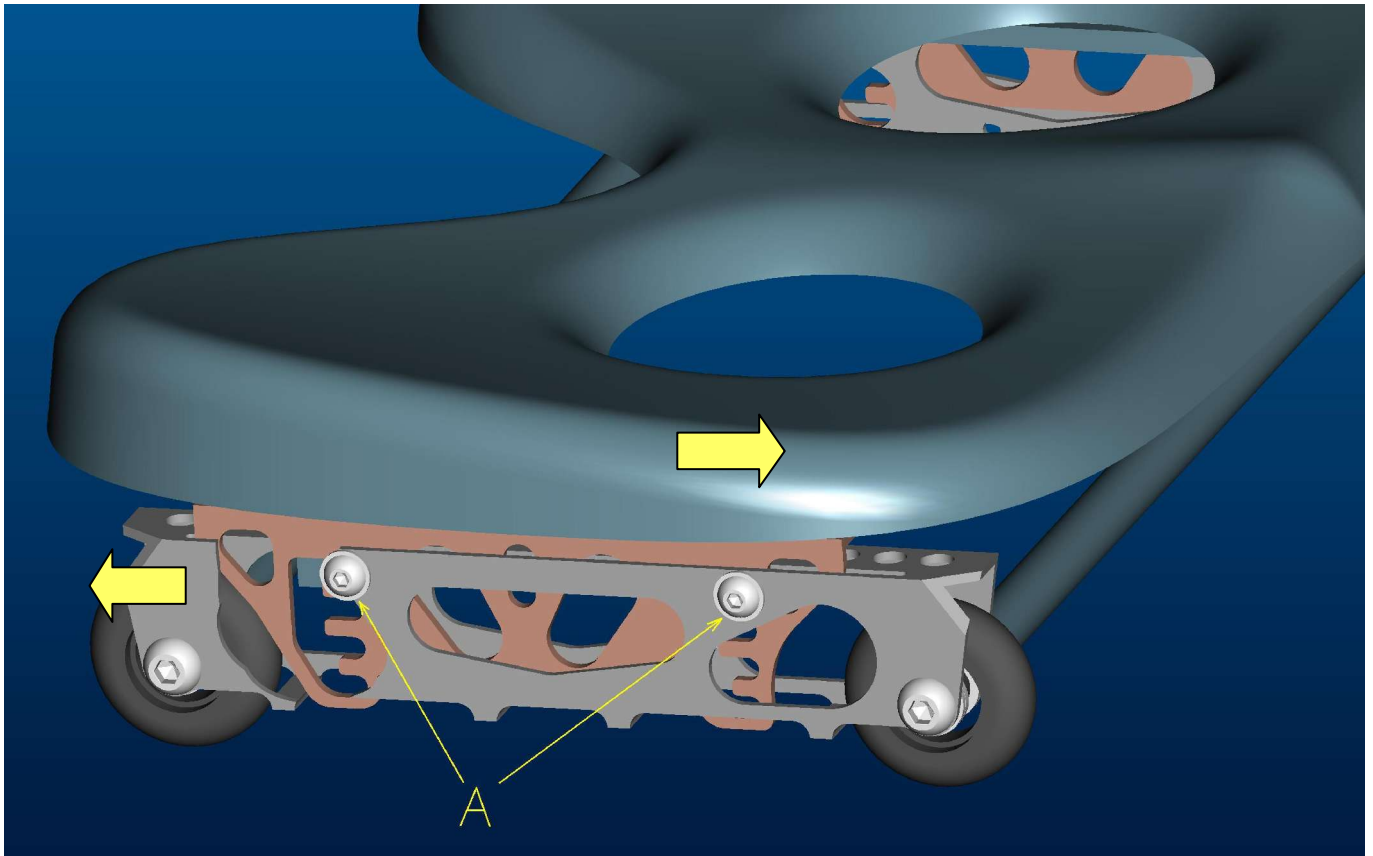

Fig. 1 – Chassis in standard position.
1. Loosen, without completely unscrewing, the two screws marked with the letter 'A' (See fig. 1) on either side of the chassis